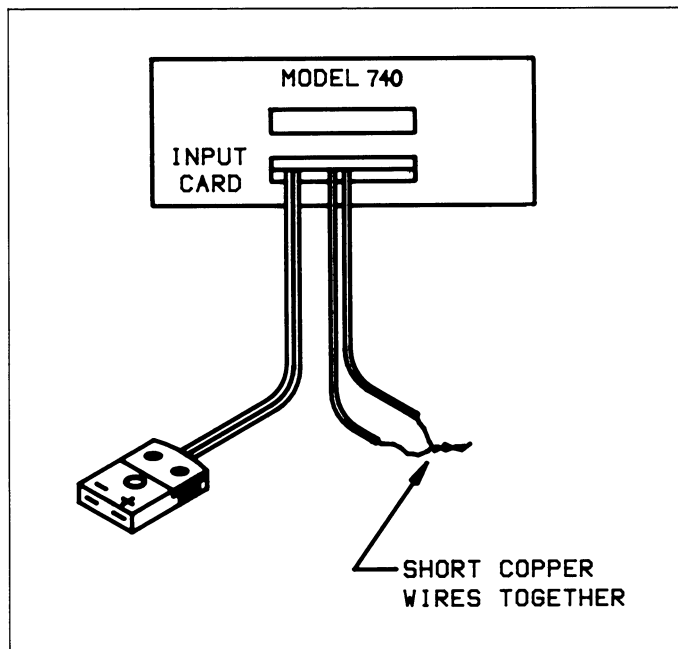

Figure 6-2. A/D Converter—Zero Calibration
7. Short the two copper wires from the INPUT CARD together as shown in Figure 6-2.
4. Short the two copper wires together as shown in Figure 6-2.